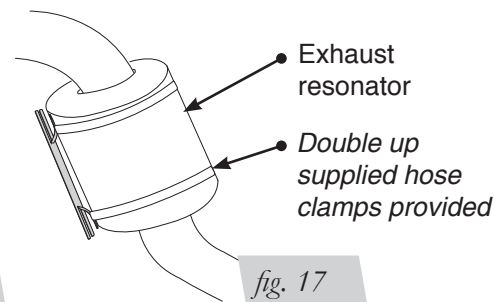

fig. 17
*Some vehicles have large resonators in this area, it will be necessary to double up on the clamps to fit these models (fig. 17).*